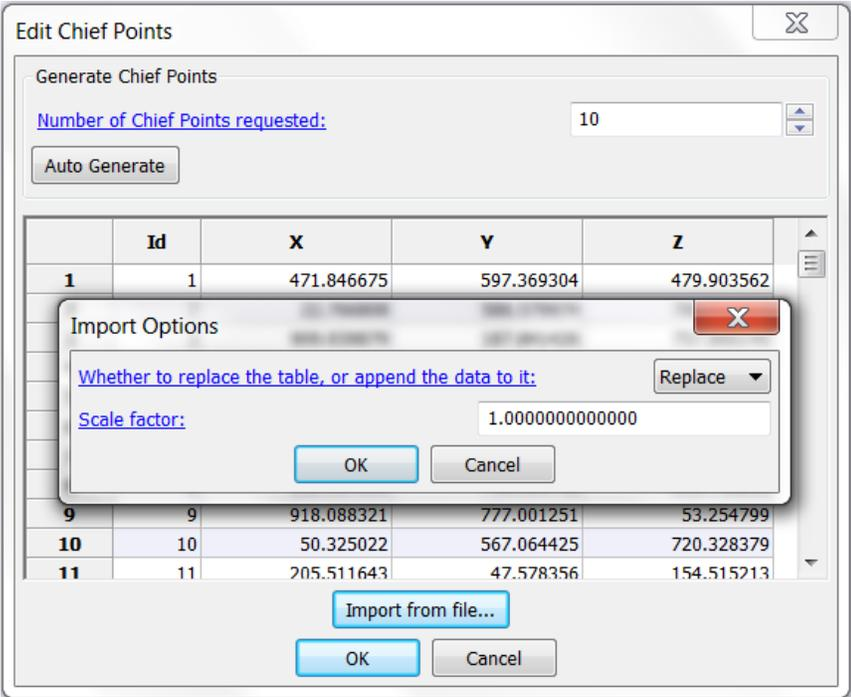

Figure 4.33 Import Chief Points from a File.
**Import From File** Chief Points can be imported from an *ASCII* file with components separated by commas, tabs or spaces. The file must contain four columns with **Id** and, **X**, **Y** and **Z** coordinates of a Chief Point (Figure 4.33). Each new Chief Point is added to a new row. Import Options window opens up after the selection of the file with the following options:
**Whether to replace the table, or append the data to it** The imported data from the file can be used to either replace the current table or append to the existing table by the selection of one of the options: **Replace** or **Append**. (Figure 4.33)
**Scale factor** The X, Y, Z coordinates of Chief Points in the *ASCII* file are multiplied by the Scale factor before being read into the table (Figure 4.33). This is specifically useful when the imported file has different units compared to *Coustyx* model. A unit conversion factor should be used as the Scale factor to convert these values. For example, when the coordinates in the *ASCII* file are in m and the *Coustyx* units are in mm, a Scale factor of 1000 is entered to convert the values in the file from m to mm. A Scale factor of 1 imports the values as they are.